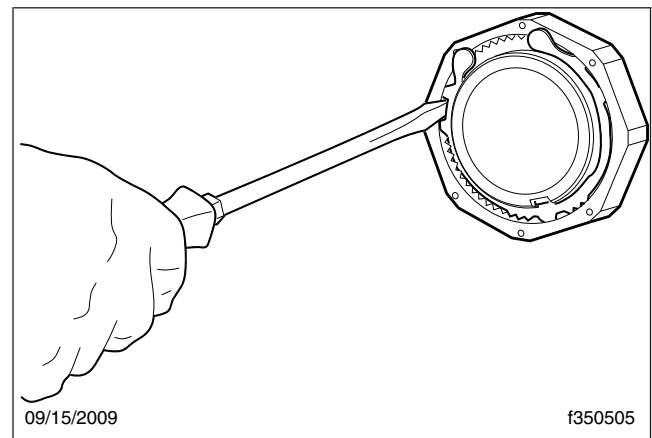

Fig. 3, Removing the Keeper
1. Insert the blade of a flathead screwdriver (or similar tool) in the slot of one of the keeper arms; see Fig. 3. Ensuring that the tool contacts the keeper and not the teeth of the nut, turn the tool slightly and carefully pry the arm from the undercut groove of the nut.